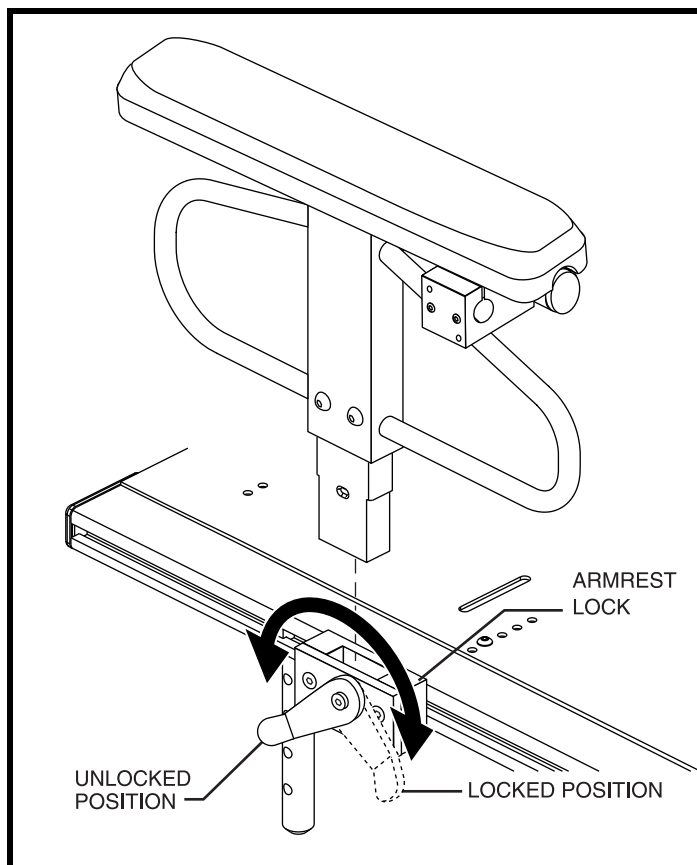

Figure 11. Armrest Removal
6. Install the armrests (if necessary). See figure 11.
1. Rotate the armrest lock lever rearward. See figure 11.
1. Place the armrest assembly into the armrest lock. See figure 11.
1. Rotate the armrest lock lever rearward and remove the armrest from the armrest lock. See figure 11.